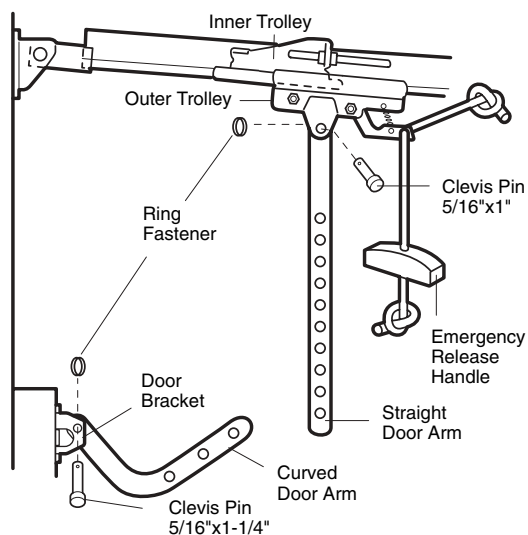

Figure 1
- Make sure garage door is fully closed. Pull the emergency release handle to disconnect the outer trolley from the inner trolley. Slide the outer trolley back (away from the door) about 20 cm as shown in Figures 1, 2 and 3.
• Figure 1: